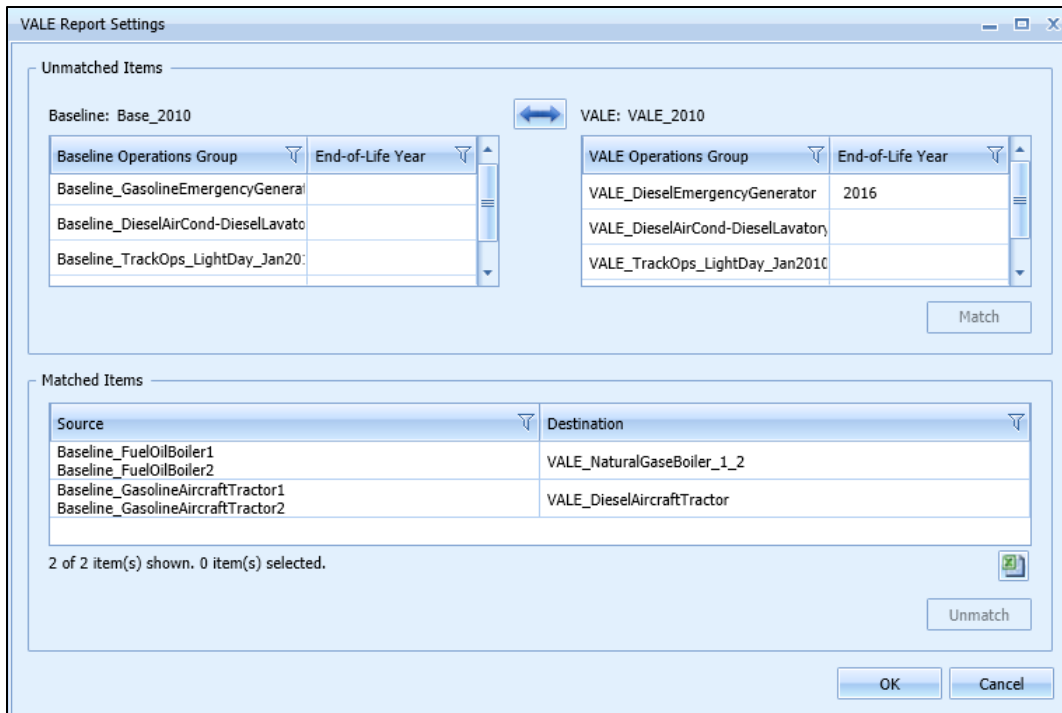

Figure 5-32 Sample VALE Report Settings Dialog
2. From the *Reports* ribbon group, click *VALE Report* to open the *VALE Report Settings* dialog (Figure 5-32).